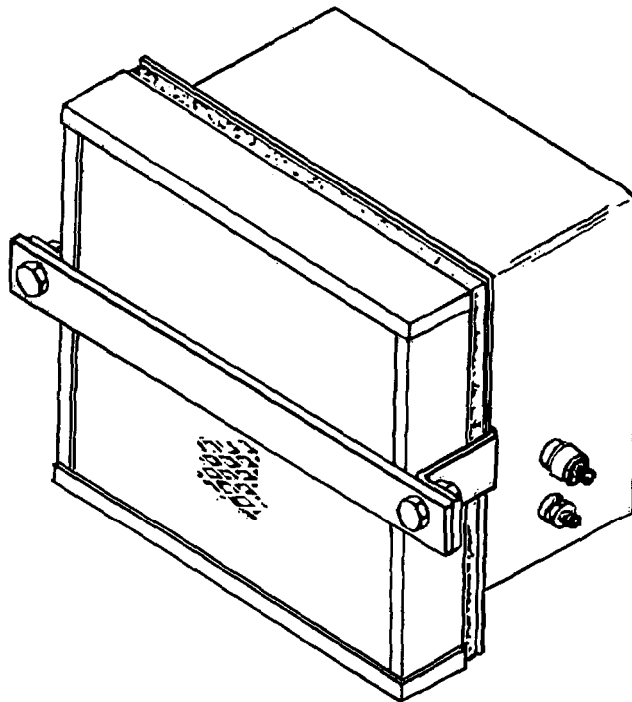

Figure 3-3. Inspecting the Engine Air Cleaner
- (1) Inspect air cleaner housing for dents, defective paint, corrosion, missing hardware and other damage (figure 3-3).
- (2) Inspect air cleaner condition switch for insecure mount and evidence of shorting or other damage.